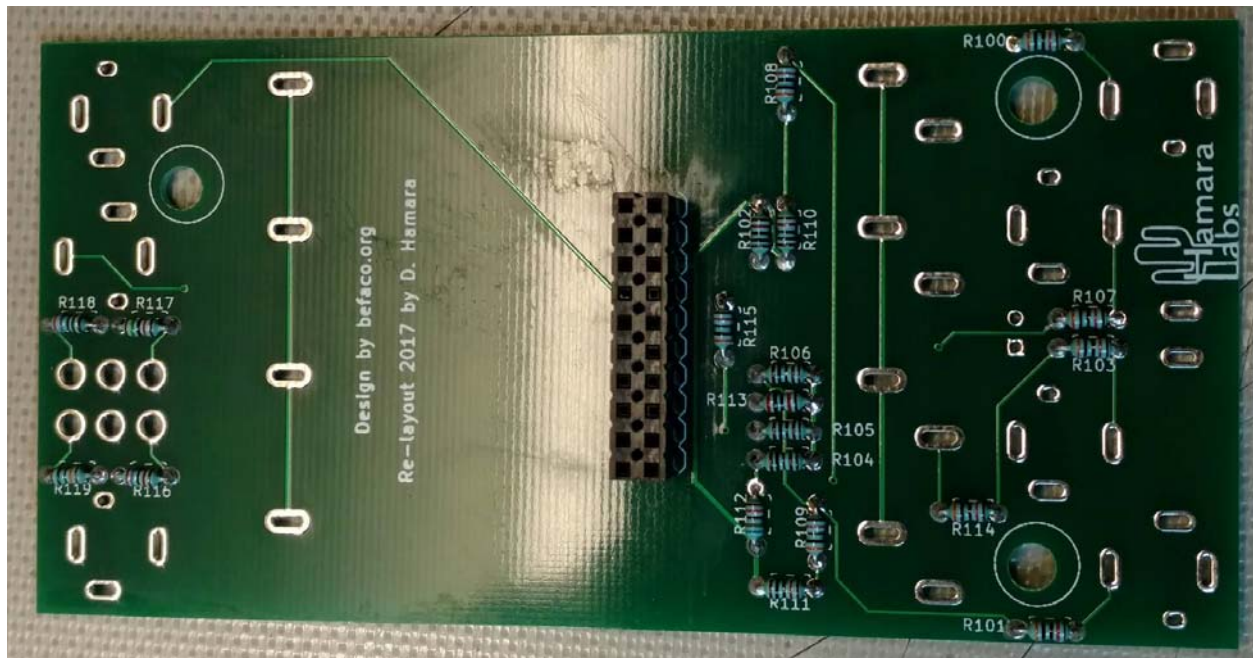

Figure 2: Bottom side components on the FRONT PCB
- 1) Install all components (resistors and J8) on the bottom side of the front PCB (Figure 2)